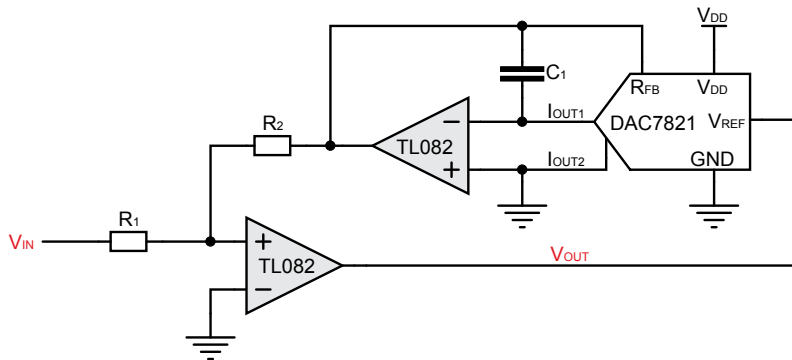
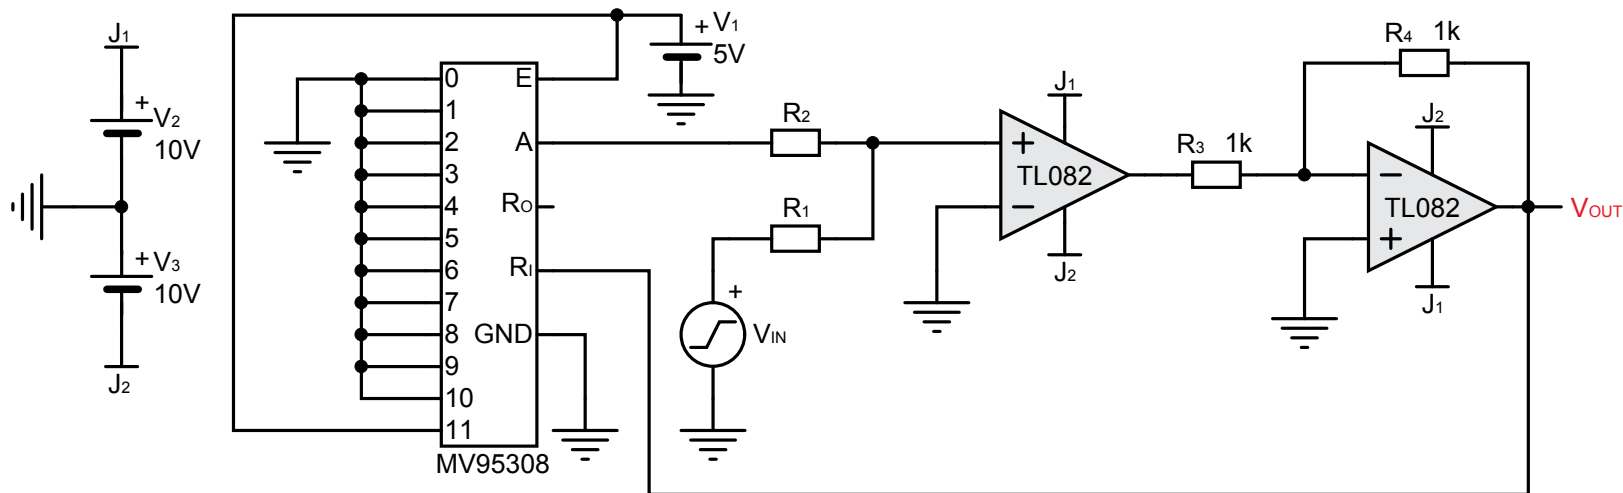
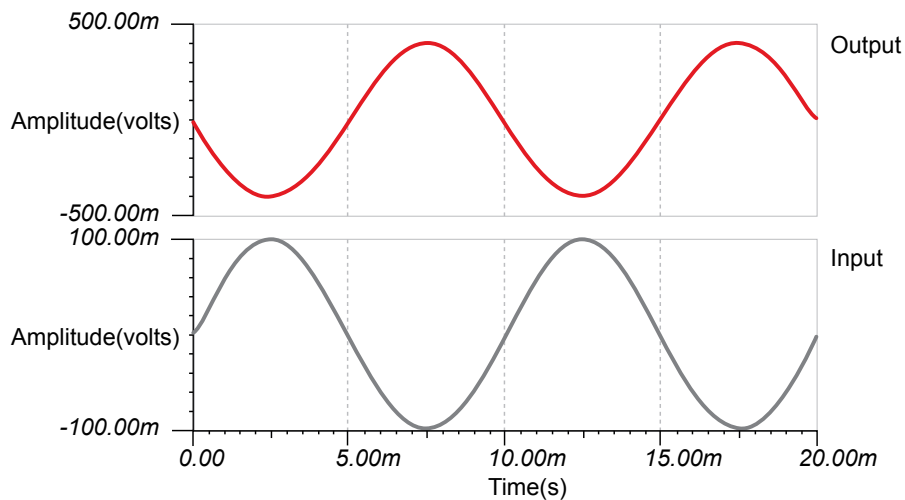

Figure 13.1: Circuit for Digital Controlled Gain Stage Amplifier
Figure 13.2: Equivalent Circuit for simulation
Figure 13.3: Simulation output of digitally controlled gain stage amplifier when the input pattern for the DAC was selected to be 0x800
See Figure 13.1 for the circuit of an inverting amplifier; the gain of this amplifier can be digitally controlled by changing the bit pattern presented to the input of the multiplying DAC, **DAC7821**.
- 1 The circuit of Figure 13.1 cannot be directly simulated, since the macro-model for **DAC7821** is not available at the time of writing. For the purpose of simulation, we will use the macro model of a different 12-bit DAC, the **MV95308**. Simulate the circuit schematic shown in Figure 13.2, which is equivalent to the circuit of Figure 13.1. Observe the output waveforms for different bit patterns. The typical simulation waveforms are of the form shown in Figure 13.3.
- 2 Use the circuit shown in Figure 13.1 for practical implementation of the Digital programmable gain stage amplifier.